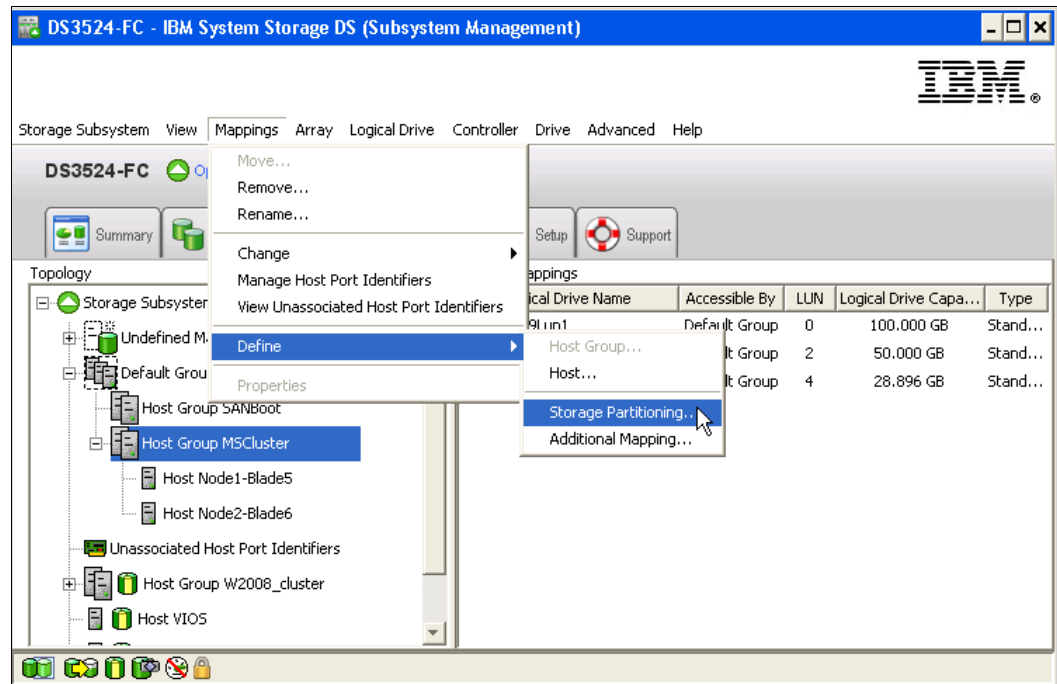

Figure 19-5 Create Host Group-to-Logical Drive Mapping
6. Create the host group-to-logical drive mapping. Select the host group created in previous step (in our example, MSCluster) and define storage partitioning by clicking the **Mapping** → **Define** → **Storage Partitioning** as shown in Figure 19-5 on page 561.